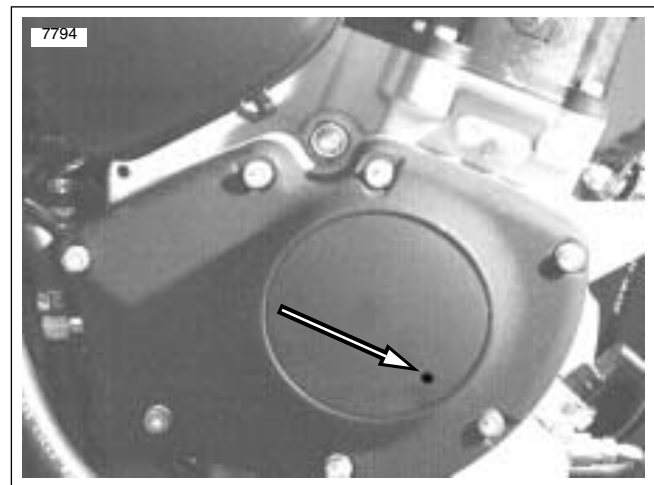

Figure 7-18. Drill Hole Location for Drilling/Removing Timer Cover
See Figure 7-18. The rotor cup is located in the gearcase cover on the right side of the vehicle behind the integrated ignition module. The rotor is mounted on the camshaft and operates at one-half crankshaft speed. See IGNITION TIMING for information on the function, testing and adjustment of the integrated ignition module and trigger rotor assembly.
7. See Figure 7-18. Drill hole in outer timer cover at 5:00 position approximately 0.500 in. (13 mm) in from outside edge. Pull out outer timer cover using 90 degree pick or other suitable tool.
7. See Figure 7-18. Drill hole in location shown and remove outer timer cover, if not removed.
10. See Figure 7-18. Tighten module plate screws to 10-20 in-lbs (1-2 Nm).